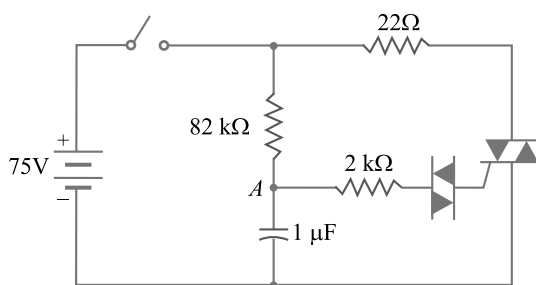

Fig. 19.24
**Example 19.7.** In Fig. 19.24, the switch is closed. A diac with breakover voltage  $V_{BO} = 30V$  is connected in the circuit. If the triac has a trigger voltage of  $1V$  and a trigger current of  $10\text{ mA}$ , what is the capacitor voltage that triggers the triac?